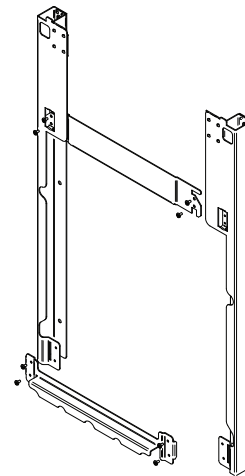

Fig. 2
- Assemble the left and right hand brackets with the upper and lower crossmembers. The tongues on the upper crossmember locate (Figs. 2 & 3) in the slots in each bracket.